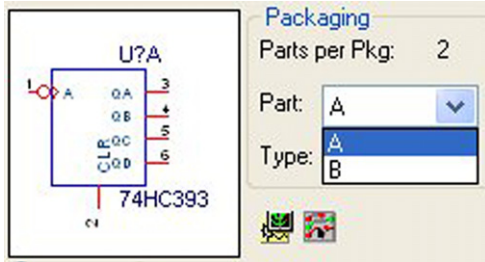

FIGURE 18.11
1. The 74HC393 has two identical sections designated A and B, shown in the **Packaging** window in the **Place Part** menu in Figure 18.11. When you select Part B, the pin numbers will change accordingly.